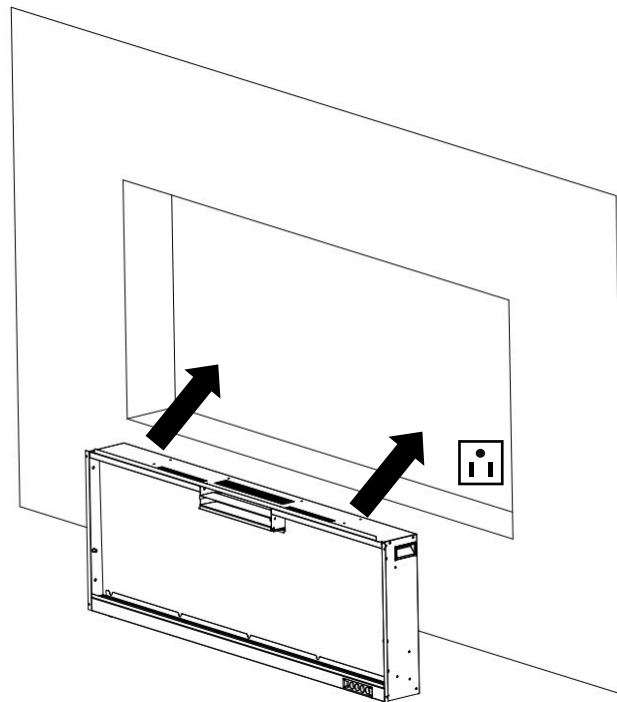
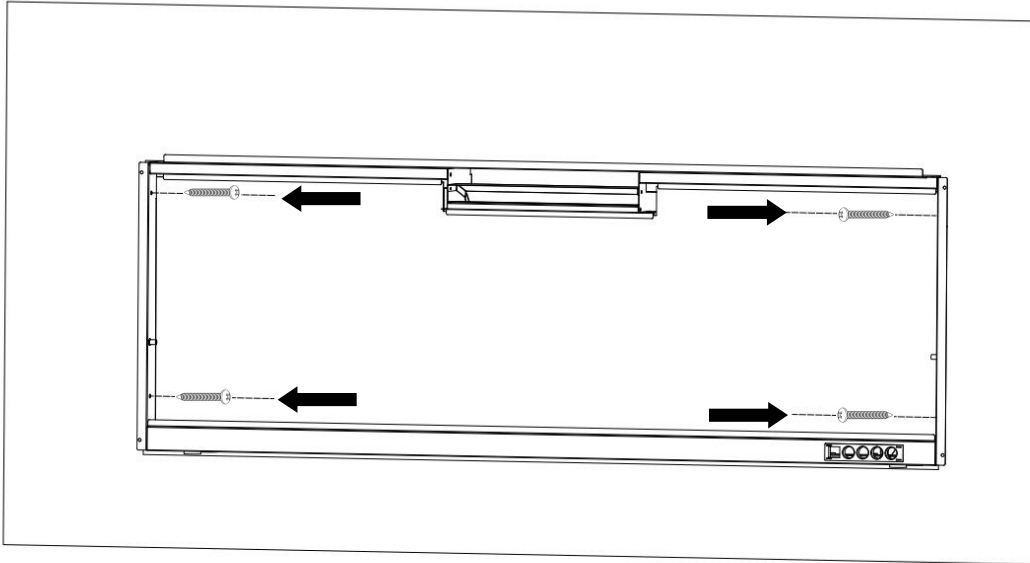

Fig. 2-3
Fig. 2-4
- D. Have two adult people to lift up the fireplace and insert it into the rough-in frame and then secure it by installing 4 wood screws (B) through the holes (Fig. 2-3, Fig 2-4).